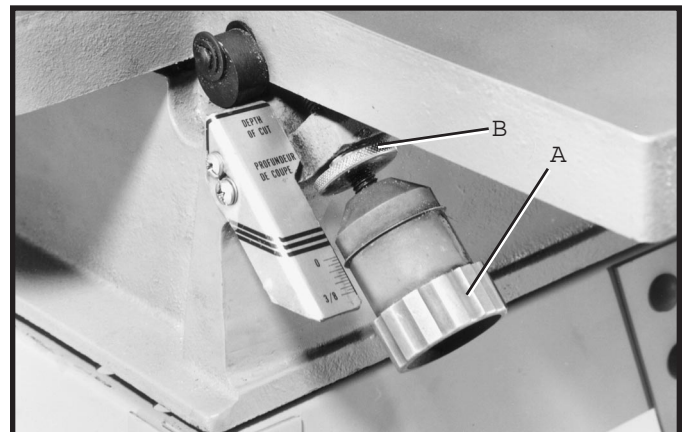

Fig. 25
2. Loosen locking knob (B) Fig. 25, and lower the in-feed table by turning the adjustment knob (A) counter-clockwise and swing the cutterhead guard out of the way.